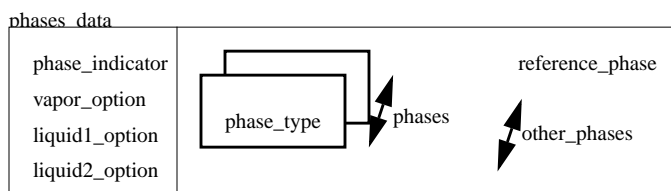

Figure 11-1 *Phases.a4l* models
The *Phases.a4l* library, see Figure 11-1², has only one model in it, **phases_data**. The user creates an instance of this model, specifying which phases are to exist for a stream or holdup and which thermodynamic model the system should use to compute mixture properties for each phase. Compiling this instance then sets up the data structures required to characterize those phases for the system.
2. In this and following figures, we represent each model as a rectangle. On the upper left is the name of the model. In Figure 11-1, the model is *phases_data*. On the left side we list in order the parameters for the model. These are shared objects a model containing an instance of *phases_data* will pass to that instance. An example would be